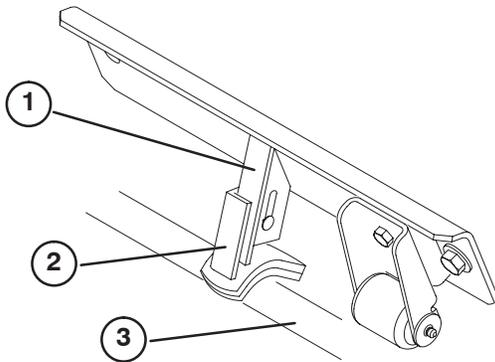

Figure 13
- On front center cutting unit, loosen the carriage bolts and nut securing the stabilizer saddle to stabilizer (Fig. 13).